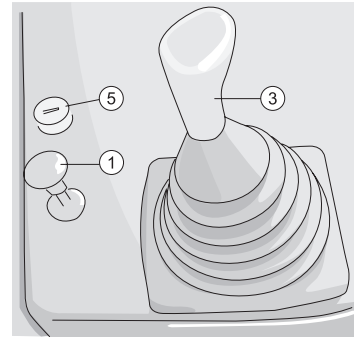

Figure 2-61
1. Release blade and ripper lock button (1) and (2) respectively. (Figures 2-61 and 2-62)
2. Pull blade and ripper control lever (3) and (4), to raise blade and ripper 40-50cm above ground. (Figures 2-61 and 2-62)